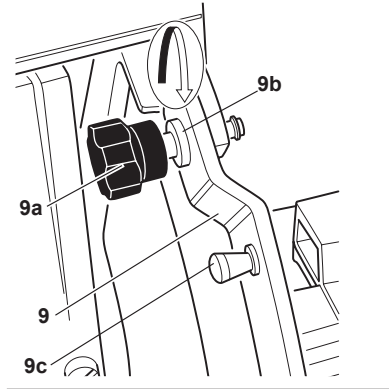

Figure 14-2
- Close the knife guard (9). Loosen, but do not remove the top and bottom knobs (9a) on the knife guard (9) (Figure 14-2).
- Tighten the top and bottom knobs (9a) on the knife guard (9).